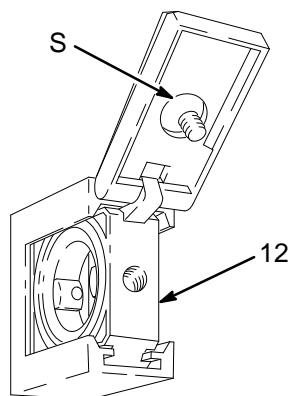

Fig. 1
To open the quick connector (12), loosen the captive screw (S) and open the connector. Slide the desired component into the connector, close, and tighten the screw. See Fig. 1.